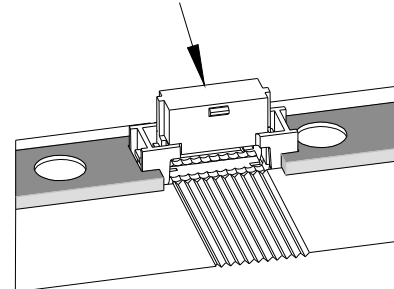

Figure 2-6
1. With the ram in the up position, place a 2.0mm Milli-Grid™ IDT Dual Row connector in the nest. Make sure the lower housing of the connector is facing up. See Figure 2-6.